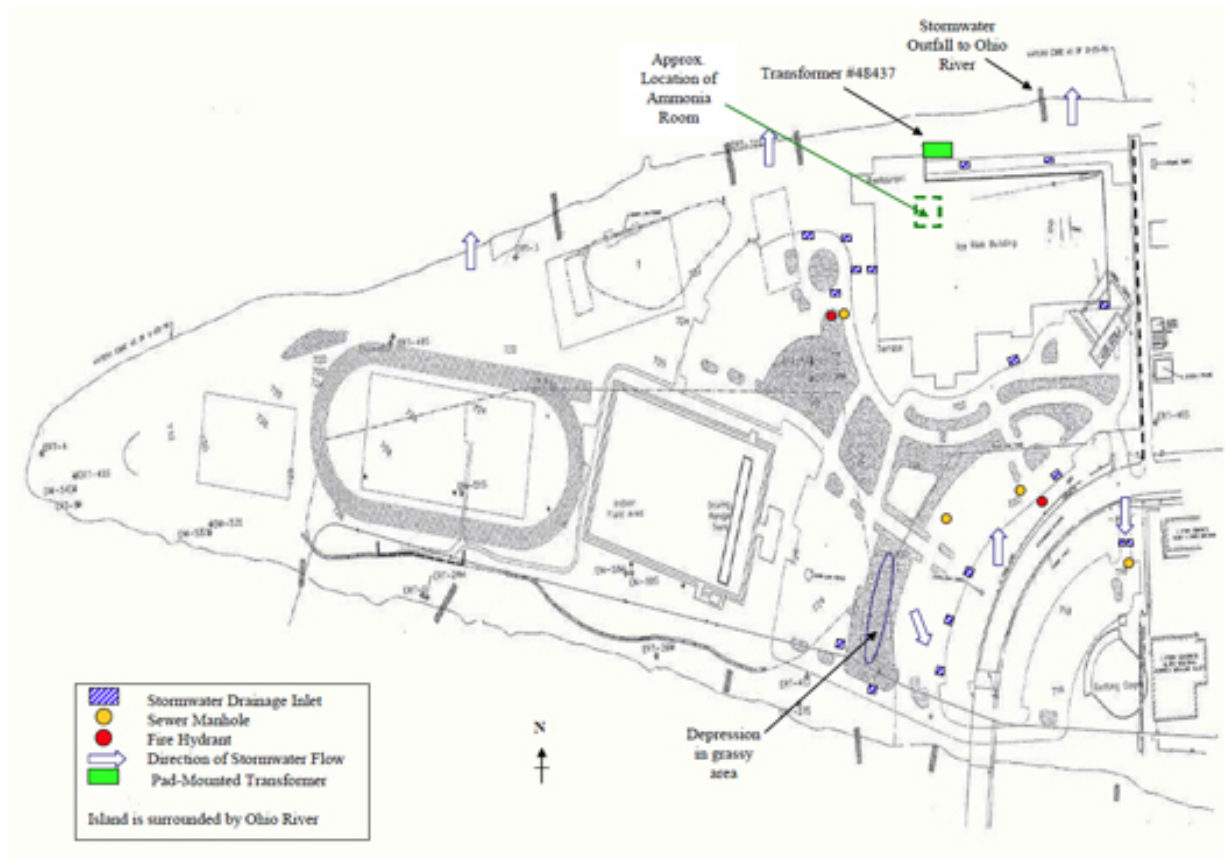
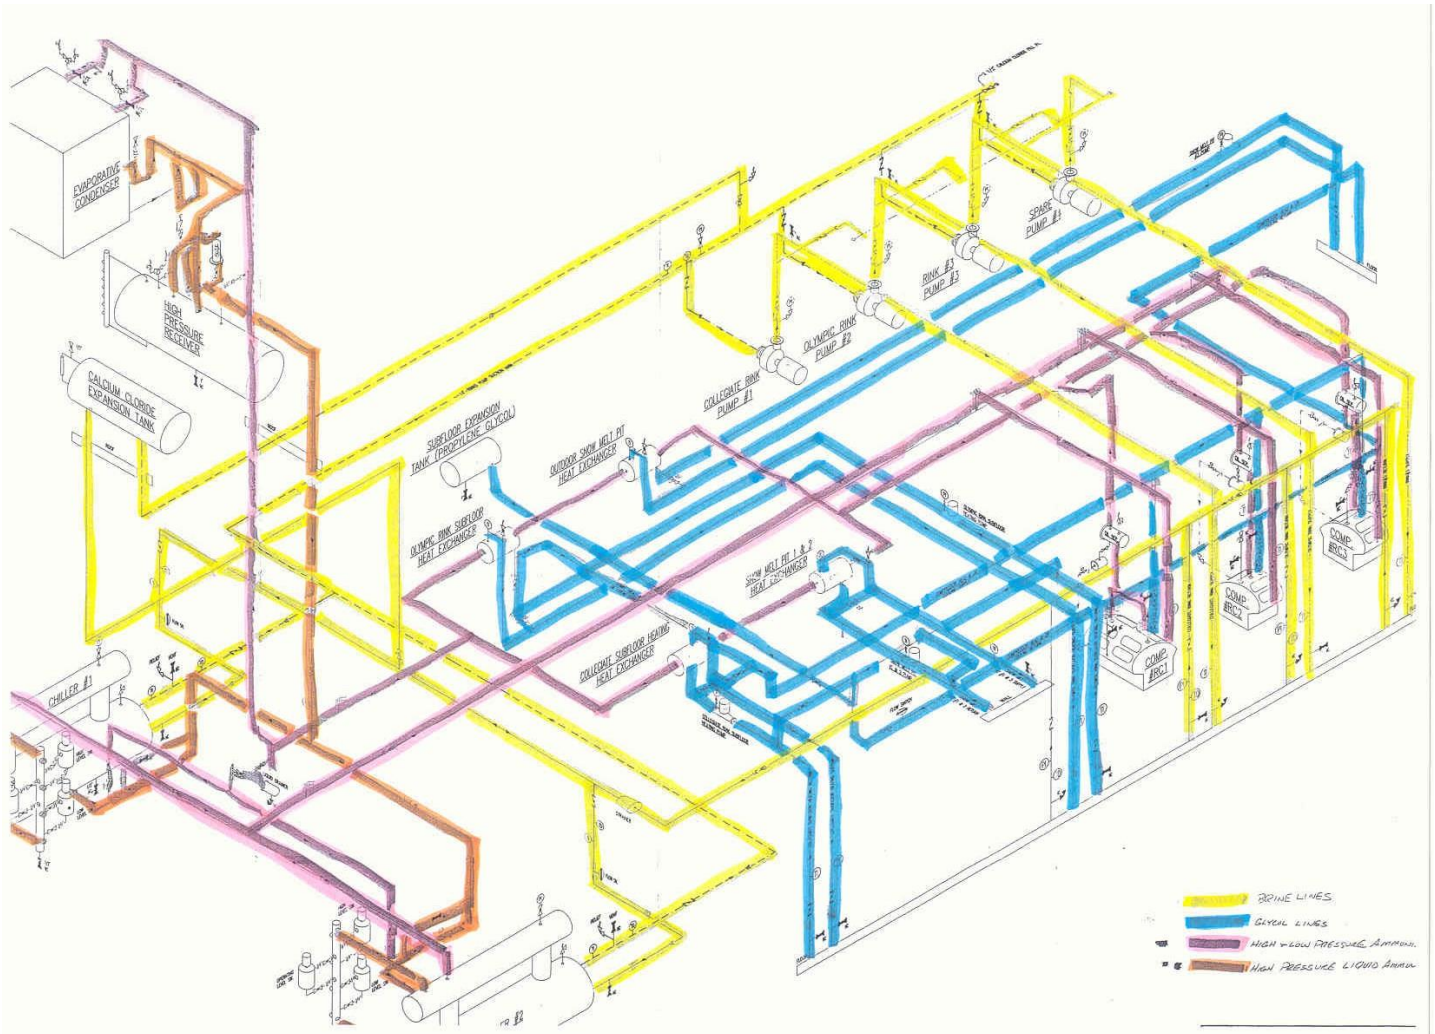

Figure 2 – Facility Layout and Site Drainage Map
Figure 3 – Ammonia Refrigeration System Diagram
- Figure 2 – Facility Layout and Site Drainage Map
- Figure 3 – Ammonia Refrigeration System Diagram
The Ohio River borders the north end of this site as shown on Figure 2 - Facility Layout and Site Drainage Map, which provides a layout of the RMU Island Sports Center. Figure 3 – Ammonia Refrigeration System Diagram provides a layout and flow diagram of the system.
Table 2 includes an inventory of materials found at this site. The location of these materials and wastes are shown on Figure 2. MSDS are maintained by the departments and are available via the Robert Morris Office of Facilities Management Safety at Robert Morris website (<http://rmu.edu/safety>). The MSDS for ammonia is provided in Appendix A.
The Main Ice Complex contains a closed ammonia refrigeration system containing 6,566 pounds of ammonia as shown on Figure 3 – Ammonia Refrigeration System Diagram. Because the ammonia system contains less than 10,000 pounds of ammonia, the facility is not subject to the Occupational Safety and Health Administration (OSHA) Process Safety Management Standard, nor the EPA Risk Management Planning Regulation. The following summarizes the standard setup and maintenance of the ammonia system: